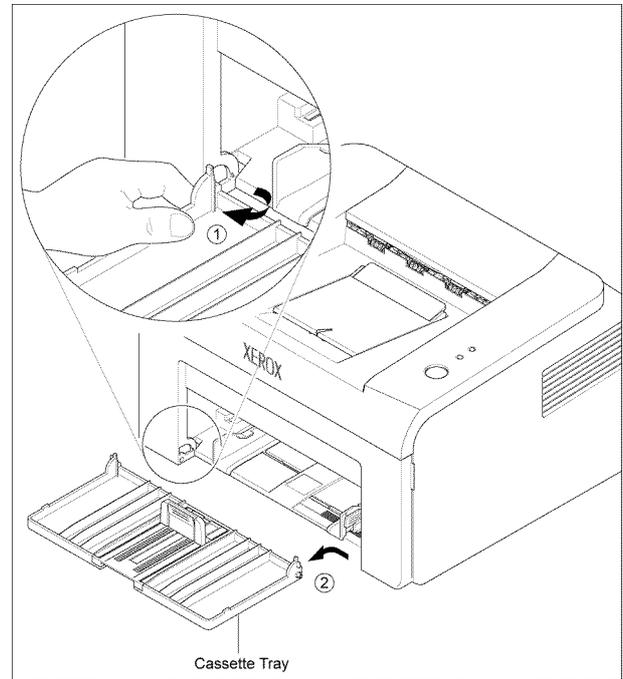

Figure 2
2. Unhinge the cassette tray in the direction of the arrow, then remove the cassette tray, Figure 2.